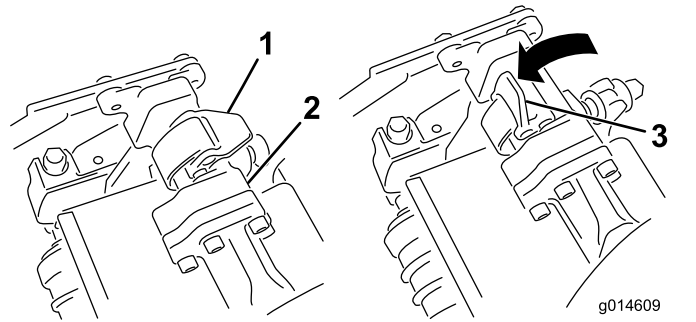
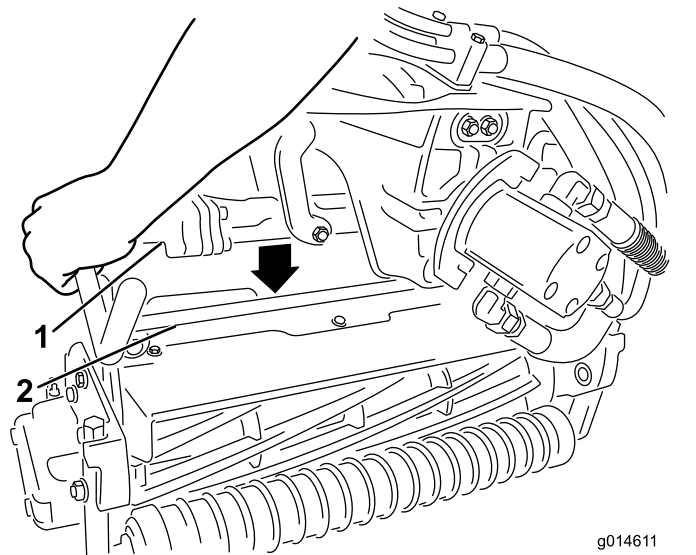

Figure 60
Figure 61
4. Open the latches on the suspension-arm bar (Figure 60) and push the suspension arm down so that the bar fits over both pitch arms on the cutting unit and ensure that the latches go underneath the cutting-unit crossbar (Figure 61).
5. Close the latches down and around the cutting-unit bar and lock them in place (Figure 60).
6. Open the latches on the suspension-arm bar of the cutting unit you are removing (Figure 60).